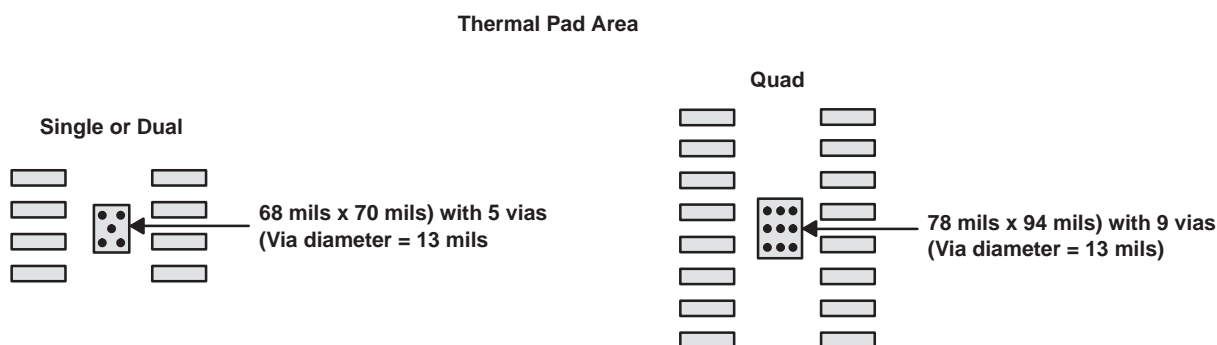

Figure 39. PowerPAD PCB Etch and Via Pattern
1. Prepare the PCB with a top side etch pattern as shown in Figure 39. There should be etch for the leads as well as etch for the thermal pad.